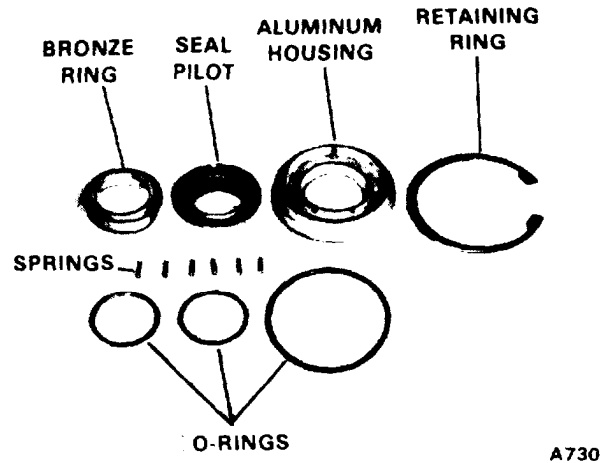

Figure 9B-14. Sealing Items
6. Wrap a piece of plastic around the drive shaft and slide the rotating bronze part over the shaft making sure it is seated. The rotating bronze part over the shaft making sure it is seated. The O-ring should face the pump. Work the ring into place using the thumbs only (see Figure 9B-15).